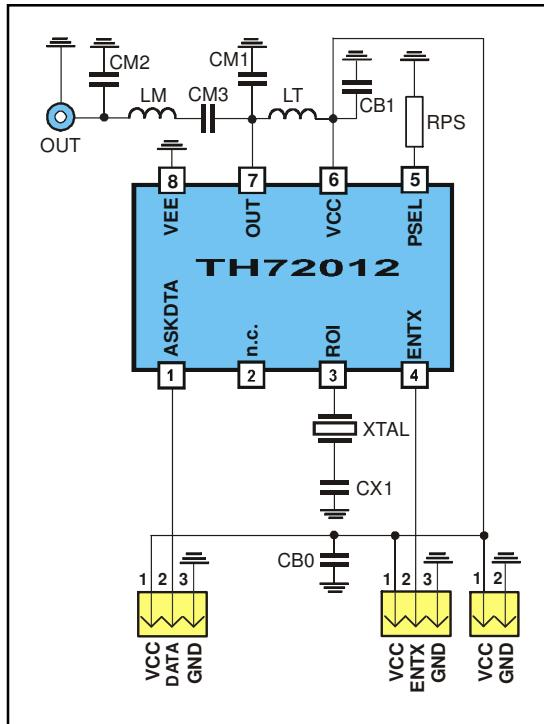

Fig. 17: Test circuit for ASK with 50Ω matching network
- Data according to test circuit in Fig. 17
6.1 Test circuit component list to Fig. 17